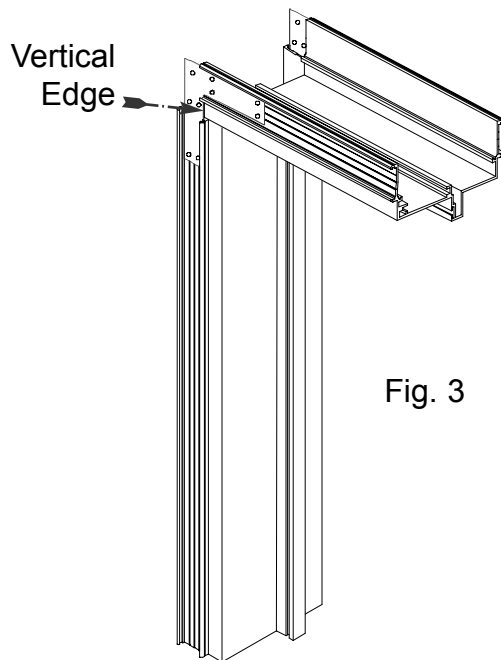
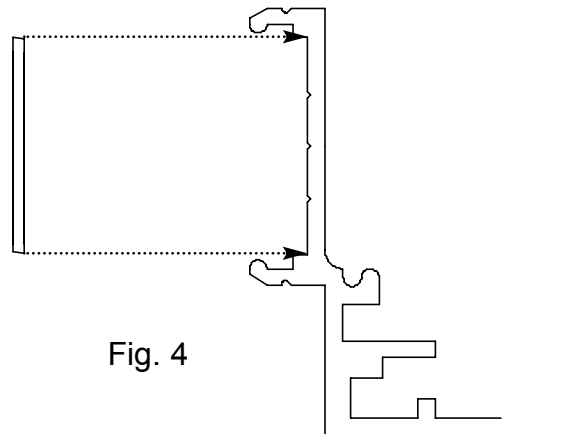

Fig. 3
Fig. 4
- a.) If doors are not premortised, then use a square to attain a 90° corner between head & jambs. Head must butt up to vertical edge of clip (Fig. 3) and set flat in alignment groove (Fig. 4). You can then attach clips with #8 x 3/4" Tekscrews.
9. Pull header down to door, allowing 1/8" spacing. Install corner clips (Fig. 3 & 4) and secure to wall.